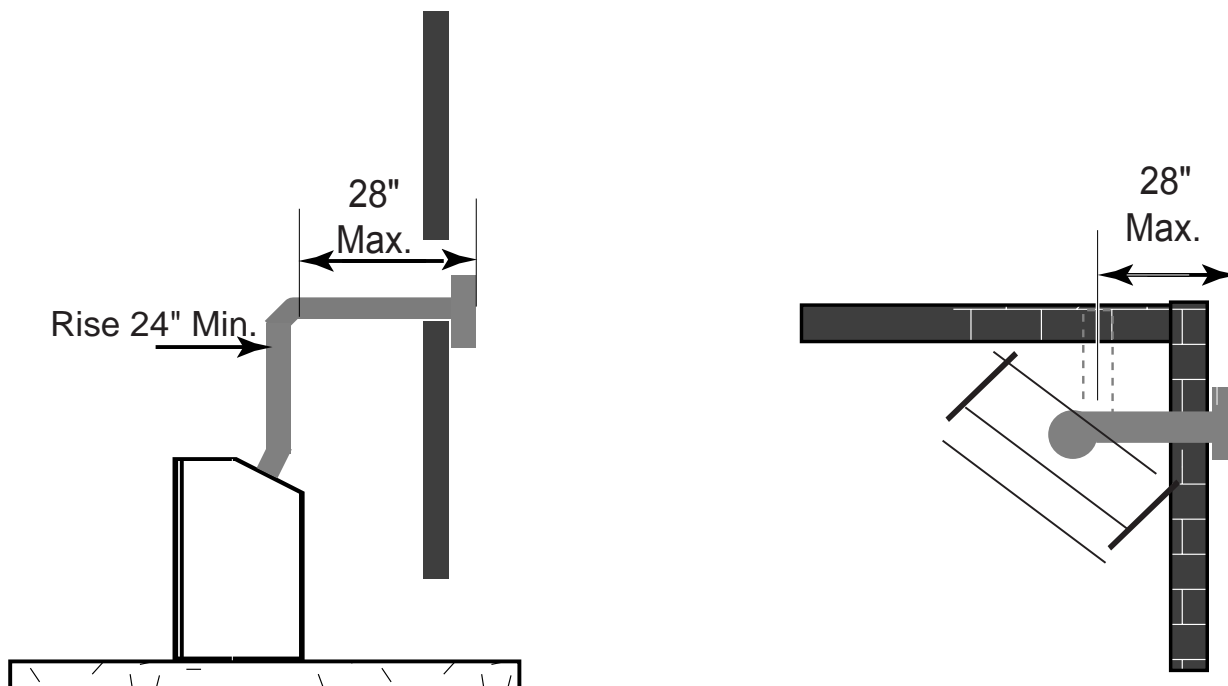
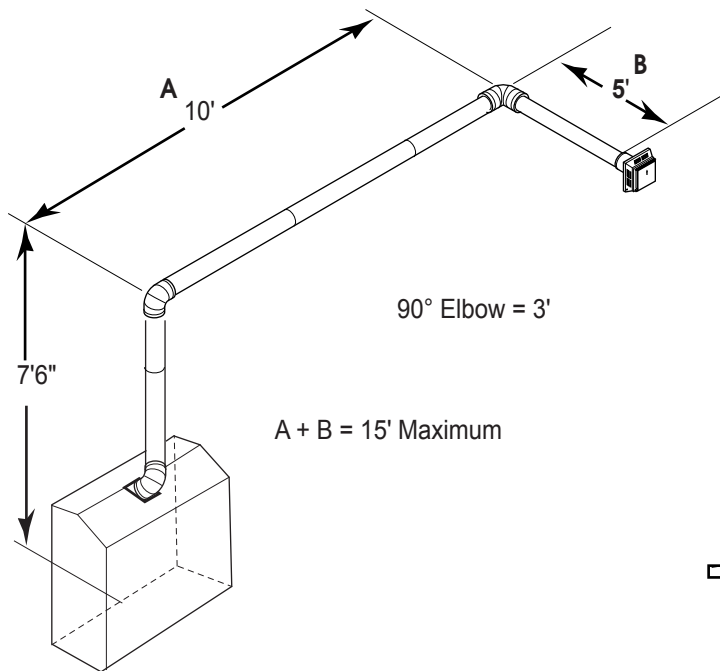

Figure 19 - Maximum Horizontal Run with 2 feet Rise
Figure 21 - Maximum Vent Run with Elbows
- If a 90° elbow is used in the horizontal vent run (level height maintained) the horizontal vent length is reduced by 36" (914 mm) (Fig. 21 A and B) This does not apply if the 90° elbows are used to increase or redirect a vertical rise. See Figure 19.
2. Remove soil to a depth of approximately 16" below base of snorkel. Install drain pipe. Install window well (not supplied). Refill hole with 12" of coarse gravel leaving a clearance of approximately 4" below snorkel. *See Figure 21.*